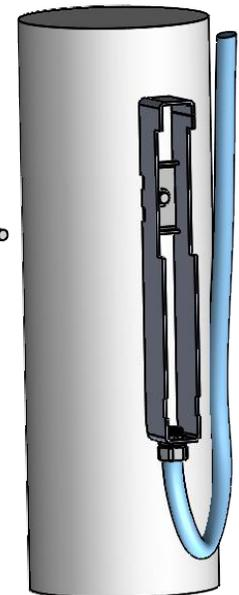

Figure 2
3. Install the conduit into the conduit fitting (802-1003) then install the conduit fitting into the hole at the bottom end of the bracket, tightening the nut until secure. (Figure 2).